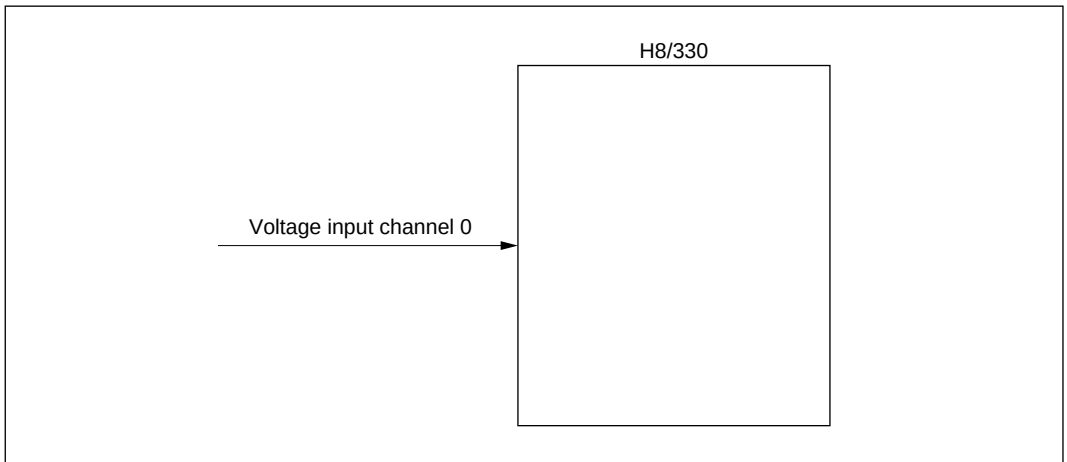

Figure 1 Voltage Measurement by H8/330
1. This sample task inputs a voltage on one channel to the H8/330 as shown in figure 1, measures the voltage by A/D conversion, and stores the measurement result in a one-byte RAM area.